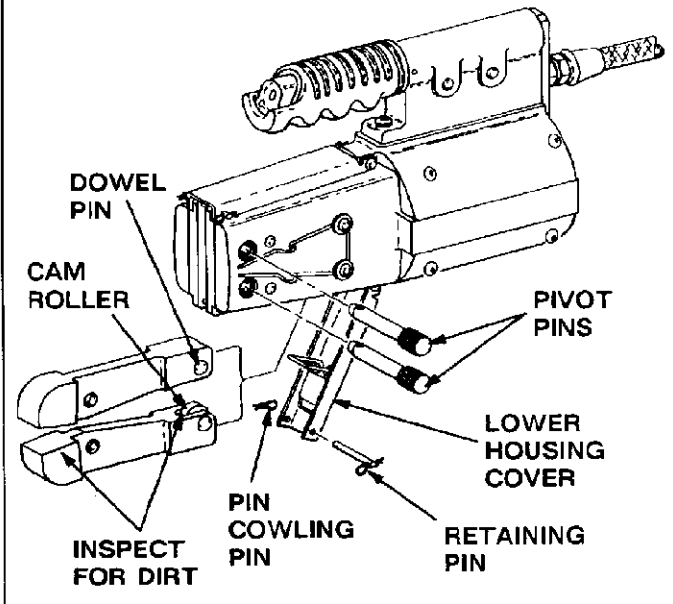

Fig. I-1
AMP Jaw Assembly 68257-1 (Figure I-1) is designed to be installed in AMP Pneumatic Tool 68068- () and terminate AMP TERMI-FOIL* Double Face Parallel Splice 53612-4 and TERMI-FOIL Double Face End Tap Splice with Barrel 53660-4. The splices are illustrated in Figure I-2. Read these instructions thoroughly before attempting to install the jaw assembly.
2. Inspect the jaw assembly closure surfaces, bottoming surfaces, and cam rollers for deposits of dirt or other foreign particles, and wipe with clean cloth. Refer to Figure I-1. Relubricate cam rollers as instructed in Paragraph II-2, LUBRICATION.
4. Pull one cowling pin and remove retaining pin from lower housing cover. Cover will swing open. See Figure I-1.
5. Remove pivot pins as shown in Figure I-1.
6. Position jaw as shown in Figure I-1.
2. Refer to Figure I-1. Pull cowling pin and remove retaining pin from lower housing cover. Cover will swing open.